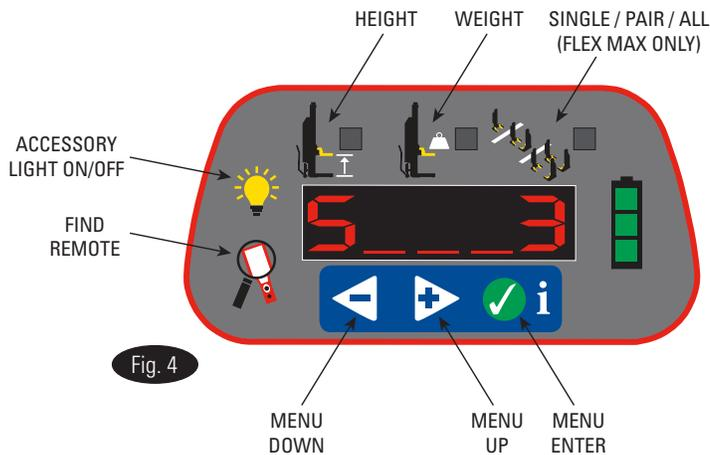
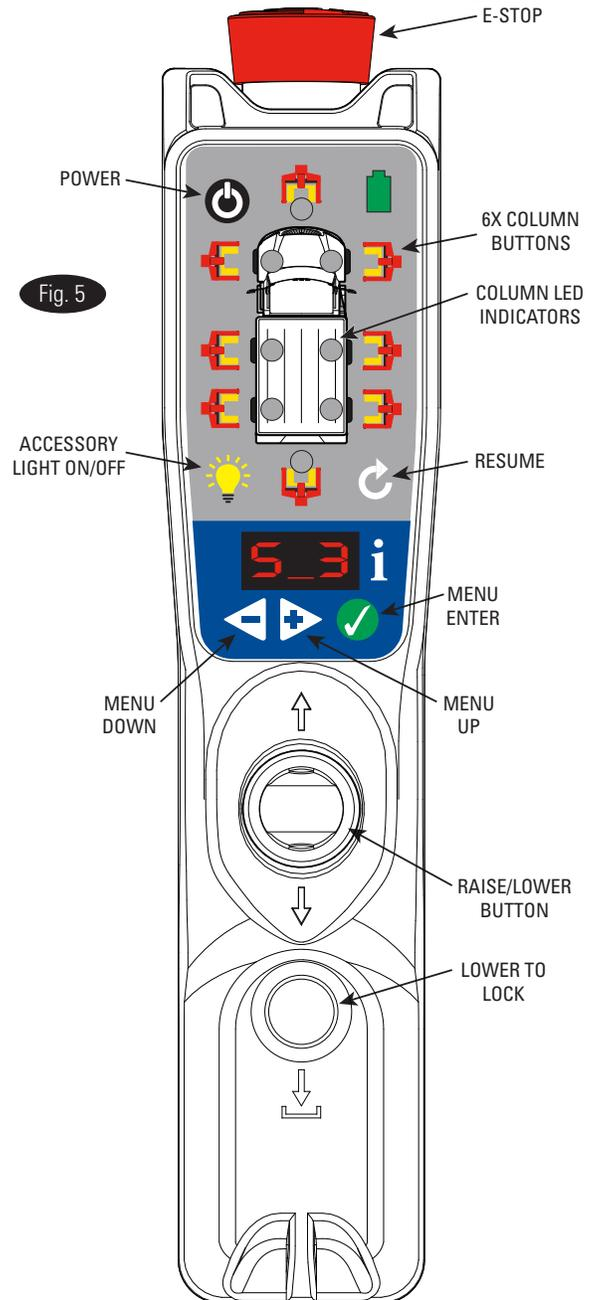

Fig. 4
Fig. 5
Note: See Fig. 4 for Column display example, see Fig. 5 for Remote Controller membrane menu display example.
3. **Using SINGLE/PAIR/ALL button on column membrane (Flex Max only) Fig. 4.**
4. **Column LED Indication** – Summary of column LED's, refer to Fig. 5: